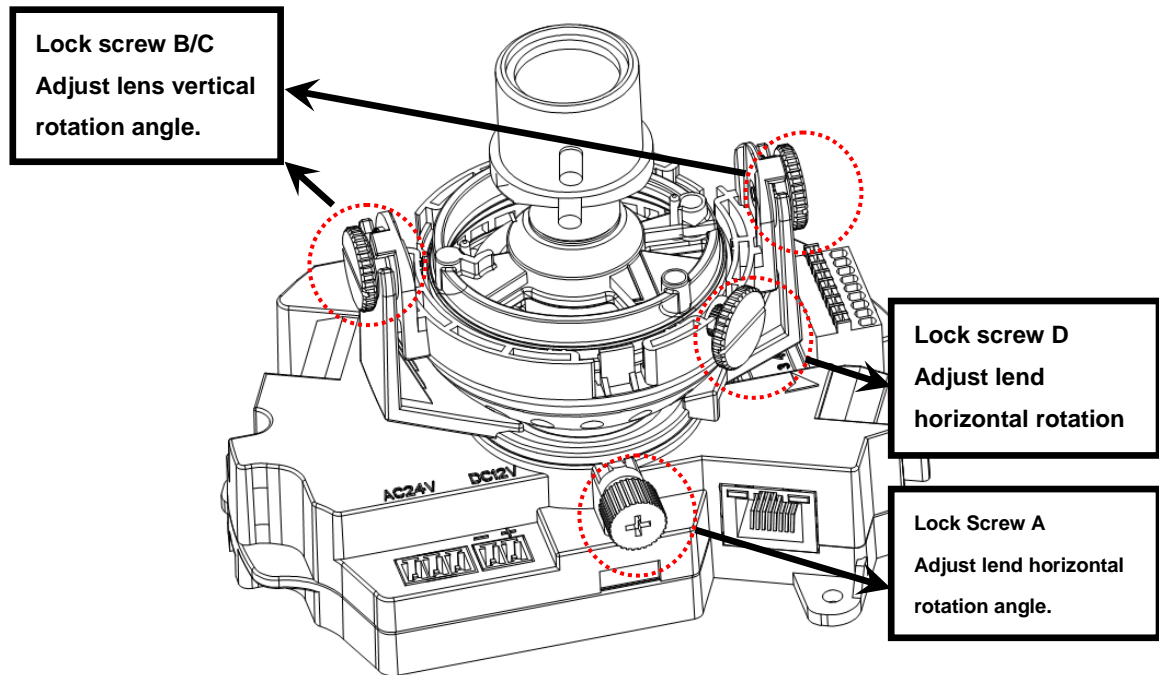

Figure 2-4 Installation 3
- b) Lens horizontal rotation angle setup. Please refer to Figure 2-4 to unfasten the lock screw A and adjust the horizontal monitor angle to the proper position. Then fix the lock screw A. The horizontal angle ranges from 0° ~ $+350^{\circ}$.
- c) Lens vertical rotation angle. Please refer to Figure 2-4 to unfasten the lock screw B and lock screw C and adjust the vertical monitor angle to the proper position. Then fix the lock screw B and lock screw C. The vertical angle ranges from -20° ~ $+70^{\circ}$.
- d) Image horizontal rotation angle setup. Please refer to Figure 2-4 to turn lock screw D to adjust the video horizontal angle. Then fix the lock screw B and C. The video horizontal angle ranges from 0° ~ $+350^{\circ}$.
See Figure 2-4.
Please note Figure 2-4 is based on non-IR series camera. For IR series product, the lock screw position and the lens angle adjustment are the same.